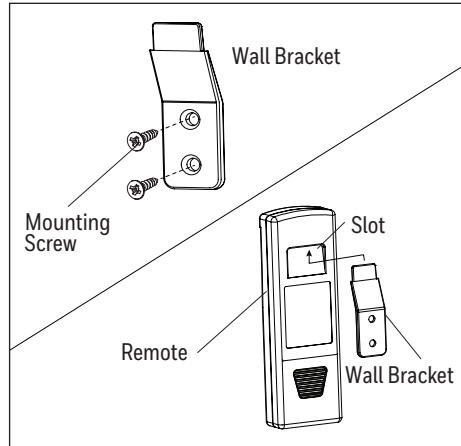

Figure 5.10
10. If desired, the wall bracket in remote pack can be installed to a wall using the provided mounting screws. The remote can be stored in the wall bracket for easy access (Figure 5.10).